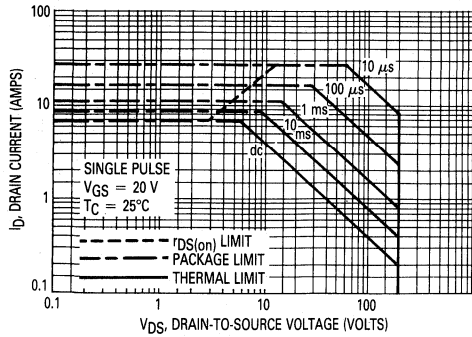

Figure 7. Maximum Rated Forward Biased Safe Operating Area
The dc data of Figure 7 is based on a case temperature ( $T_C$ ) of 25°C and a maximum junction temperature ( $T_{J(max)}$ ) of 150°. The actual junction temperature depends on the power dissipated in the device and its case temperature. For various pulse widths, duty cycles, and case temperatures, the peak allowable drain current ( $I_{DM}$ ) may be calculated with the aid of the following equation:
- $I_{D(25^\circ C)}$  = the dc drain current at  $T_C = 25^\circ C$  from Figure 7